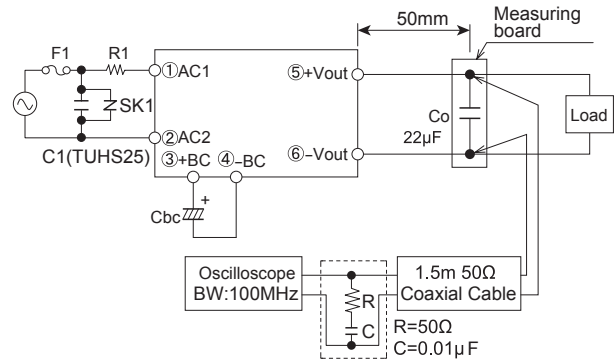

Fig.3.13 Method of Measuring Output Ripple and Ripple noise
■The specified ripple and ripple noise are measured by the method introduced in Fig.3.13.